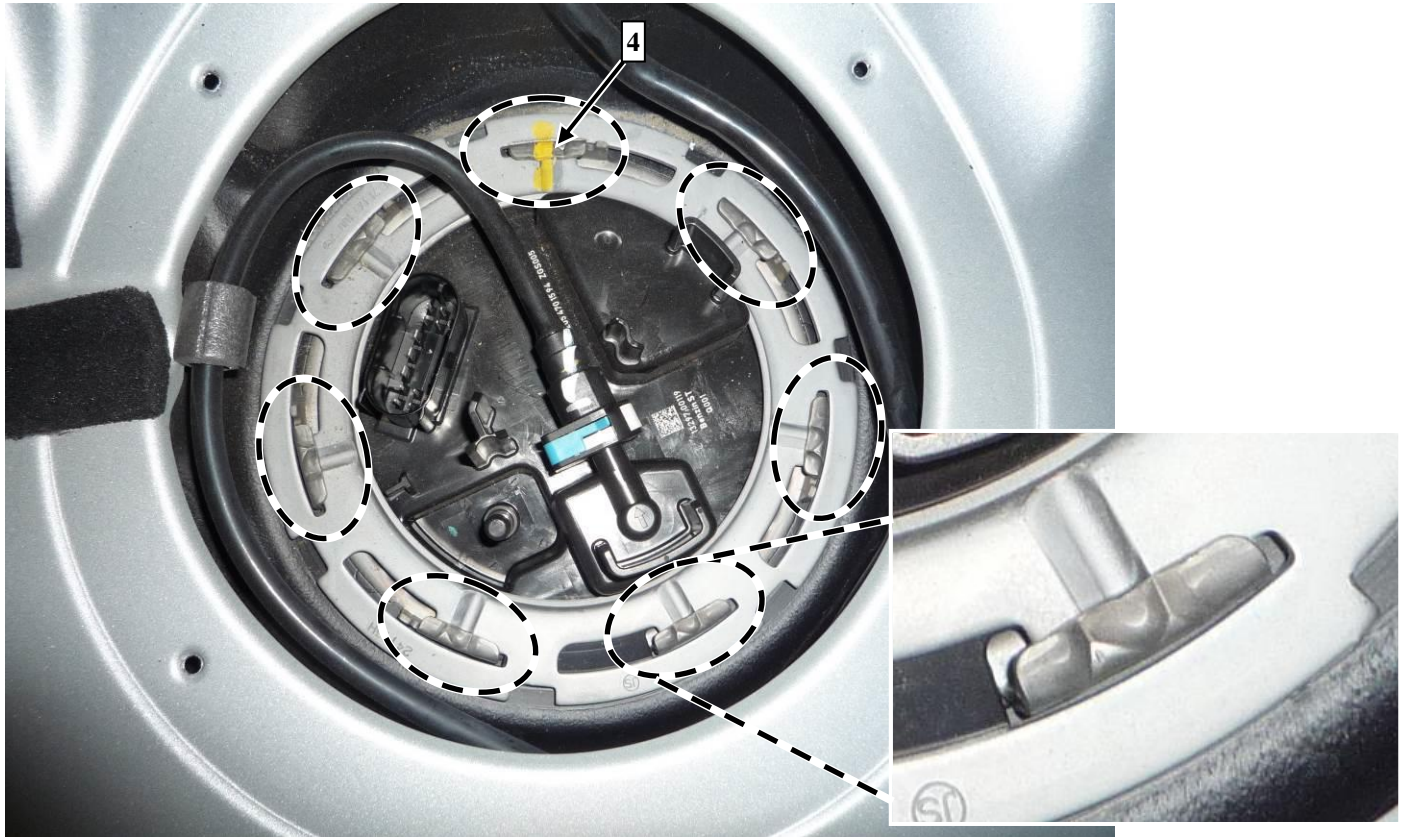

Figure 5
- Mark the assembly position of locking ring (4, Figure 5) prior to removal (of locking ring).
6. Reinstall flange. **Ensure proper engagement** (Figure 5).
3. Reinstall flange. **Ensure proper engagement** (Figure 5).